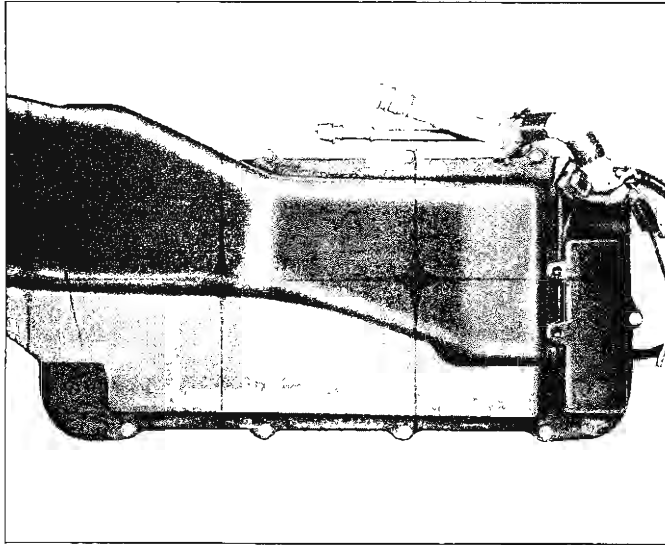

Fig. 19—Evaporator Case—Custom System
3. Turning the unit over, remove the screws (fig. 19) attaching the back cover and gasket to the case and remove the cover and gasket.